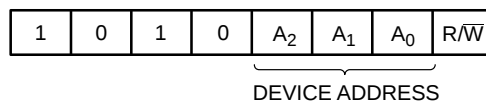

Figure 3. Slave Address Bits
The Master addresses a Slave by creating a START condition and then broadcasting an 8-bit Slave address. For the N24C32, the first four bits of the Slave address are set to 1010 (Ah); the next three bits, A2, A1 and A0, must match the logic state of the similarly named input pins. The R/ $\overline{W}$  bit tells the Slave whether the Master intends to read (1) or write (0) data (Figure 3).